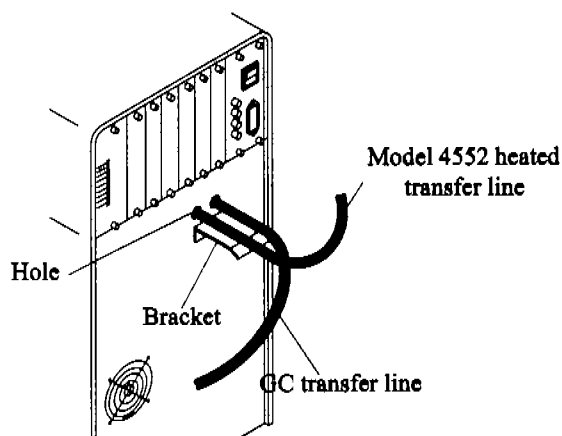

Figure 3.16. Tekmar 2000 back view
9. Insert the soil-purge-gas transfer line's free end through the hole labeled "ALS" (Figure 3.16). Attach the transfer line to the bottom-left port on the new four-port fitting.